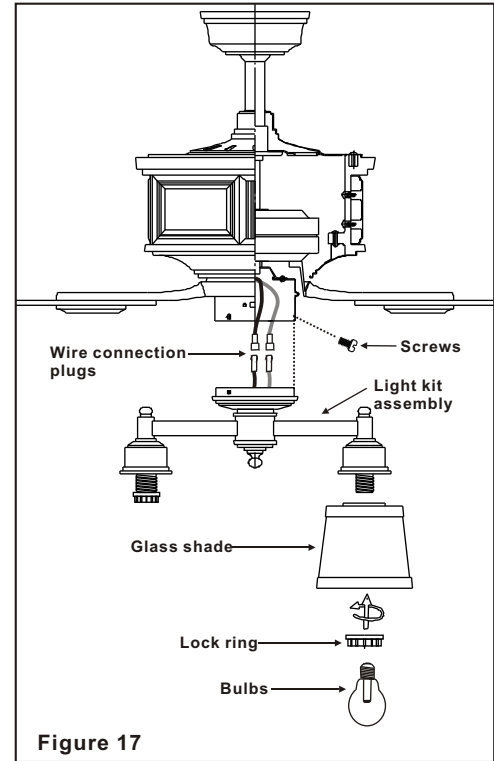

Figure 17
2. While holding the light kit assembly under your fan, Make the polarized plug connections: (Fig. 17)
3. Carefully push all wires back into the switch housing, then install the light kit assembly onto the switch housing with 3 screws provided. Be sure to tighten all screws. (Fig. 17)
4. Remove the lock ring from the socket by turning the lock ring counter-clockwise until it unlocks. Insert the glass into the glass holder and turn the lock ring clockwise to tighten the glass. Repeat for the remaining glass. (Fig. 17)